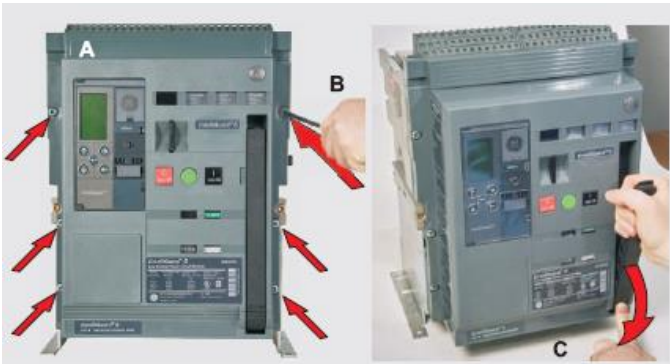

Figure 1. (A) Front Cover (B) Screw Removal (C) Handle Rotation
3. Loosen the 6 screws on front cover (fascia) using a posidrive screw driver as shown in Fig 1.B Rotate the charging handle down and slide the front cover over the handle to remove the front cover as shown in Fig. 1.C.